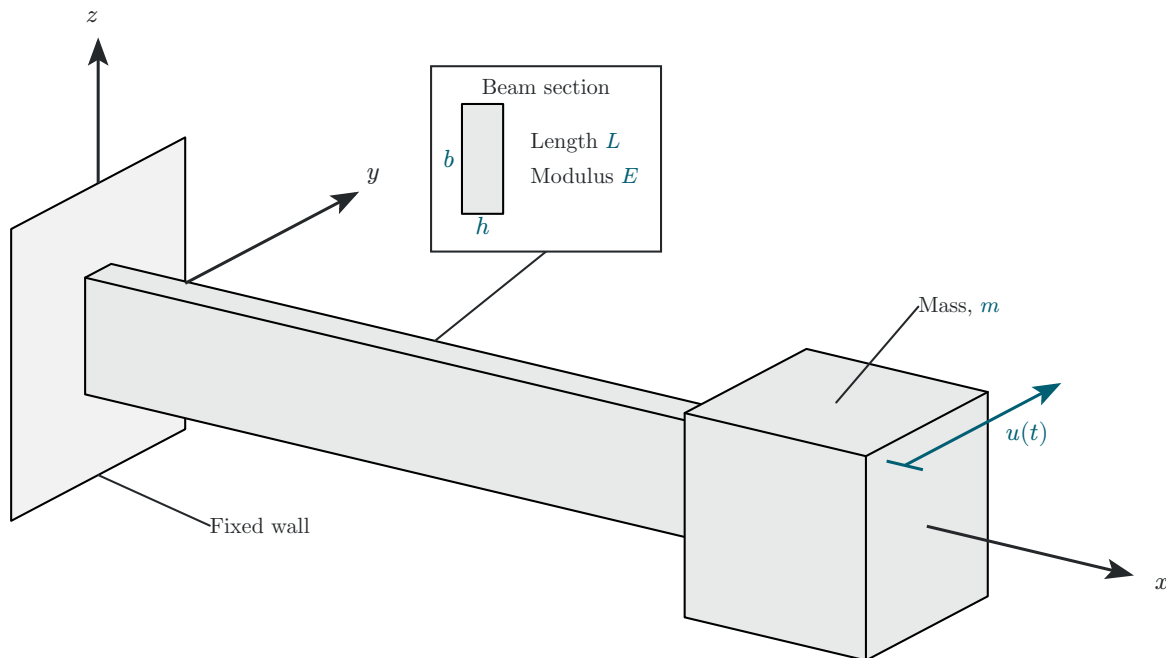

Figure 19: *Horizontal flex-beam vibrating system.*
Consider a cantilever beam of length L with a mass m attached at its tip as shown in Figure 19. The beam cross-section properties are E , h , b .
- (1) Assume vibration with horizontal time-varying displacement $u(t)$ as shown in Figure 19.
- (2) Calculate the cross-sectional stiffness EI of the beam for flexural deformation consistent with $u(t)$.
- (3) Calculate the flex-beam spring constant k .
- (4) Draw free-body diagram (FBD) including all the forces acting on the mass m .
- (5) Deduce equation of motion (EOM).
- (6) Compare the EOM deduced here with the EOM derived in Problem B.1.
- (7) Solve the initial value problem (IVP) and find the response for simultaneous application of both initial displacement u_0 and initial velocity $\dot{u}_0$.